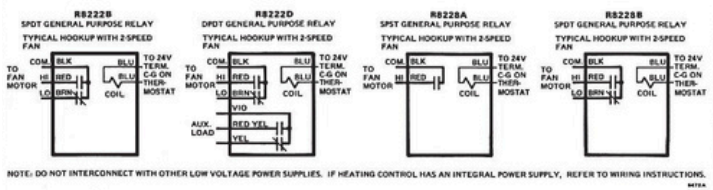

Fig. 8. Typical relay wiring hookups for Q633A plate-mounted relay receptacle.
1. Use Fig. 8 to determine the leadwires required for the relay and the desired application.